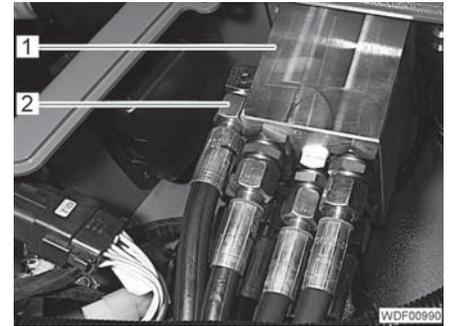

Fig. 332 Hydraulic lines
- Unscrew and close off the 8 hydraulic lines (Fig. 332,2).